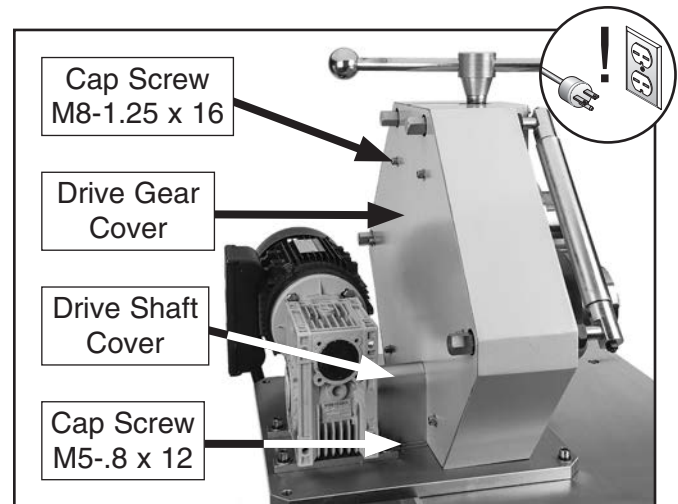

Figure 28. Components to remove before lubricating leadscrew and drive gears.
2. Remove M5-.8 x 12 cap screw and drive shaft cover from back of machine (see **Figure 28**).
3. Remove (6) M8-1.25 x 16 cap screws and drive gear cover (see **Figure 28**).